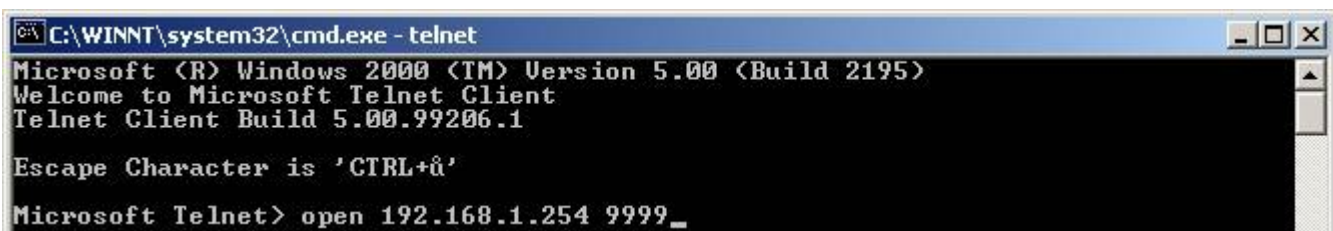

Fig. 12 – Connection to the thermometer
- 3) Now you can connect to the thermometer. Its IP address setting from the manufacturer is 192.168.1.254. (Type "open 192.168.1.254" in the window and push Enter.) (cf. Fig. 12)